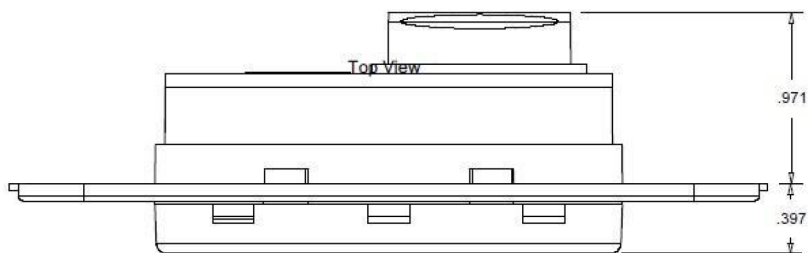

Figure 5 – EasyTouch Display Top View Mounting Dimensions
1. Choose a wall location that has adequate depth (at least 1"/25.4mm) behind the wall itself. See Figure 5 for the depth dimensions of the display.